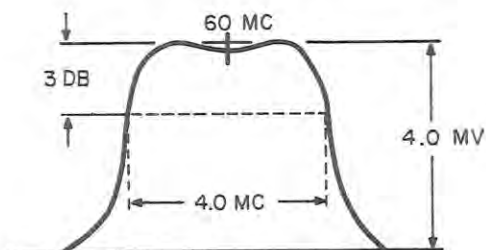

Figure 5-12. 490-1000 Mc RF Tuner IF Response Waveform at J2.
- p. The IF response at the tuner IF output J2 should be as illustrated in Figure 5-12.